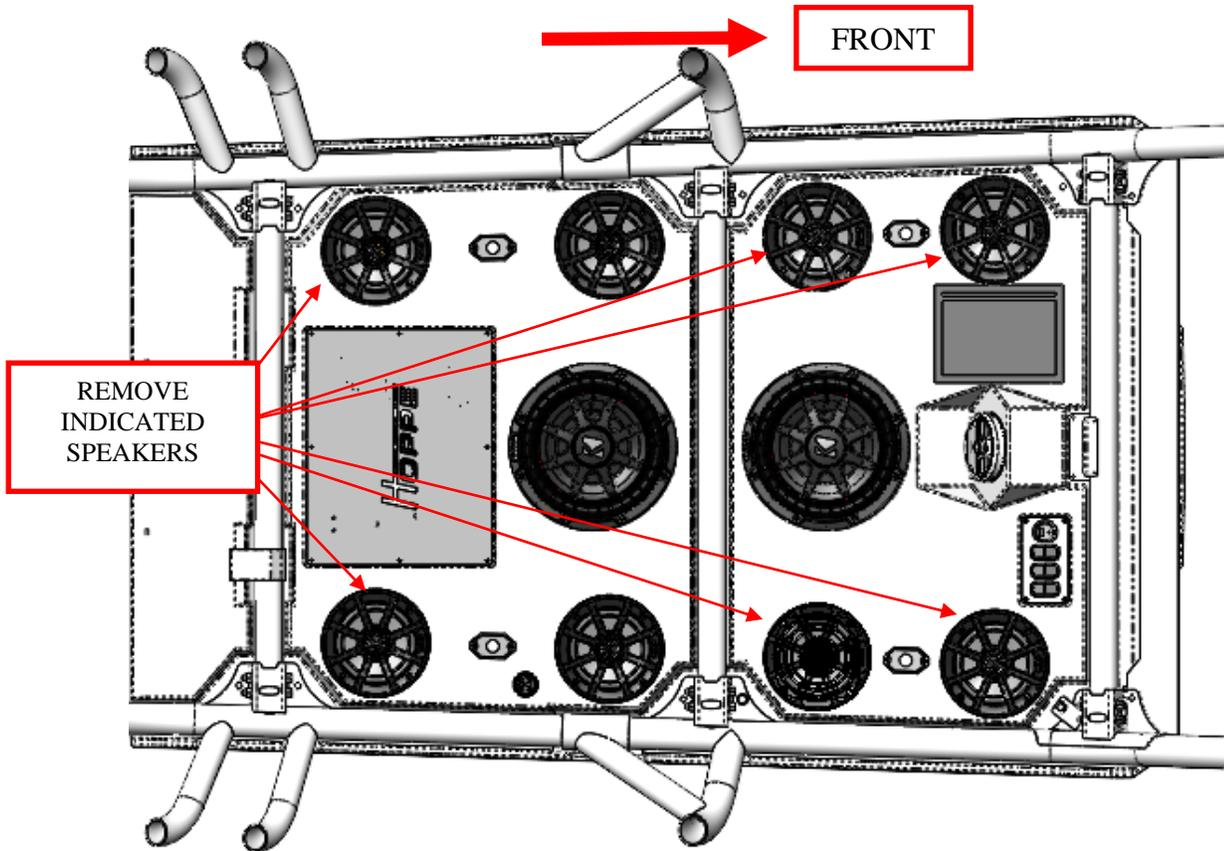

Figure 5: Install the top on the cage (view looking up from inside).
2. Using a few assistants, set the *Audio Shade* off-road top on the cage. The top is contoured such that the cage fits inside the grooves on the top. **Note: The top weighs up to 140 lbs. depending on your configuration. Since you will have to lift and reach, it is helpful to have at least 4 people for this step.** See Figure 5.
3. Remove the indicated 6.5" speakers so you can reach your hand inside the top. The speakers are held in place with 4-Philips screws each. Once the screws are removed, lower the speaker by hand to reach behind and disconnect the speaker wires. See Figure 5.